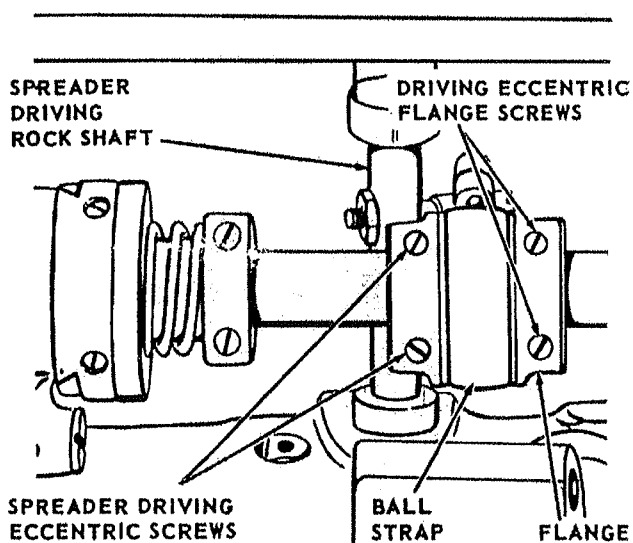

Fig. 35
The sidewise movement of the spreader may be adjusted for sewing under abnormal conditions. Under normal conditions, maximum spreader movement is generally used. To adjust, tilt machine back on its hinges, loosen the two spreader driving eccentric screws, Fig. 35, and the two spreader driving eccentric flange screws. Move eccentric to left to increase movement, or to right to decrease movement. When correctly positioned, tighten the two spreader driving eccentric screws first, hold flange against strap and tighten flange screws. Then refer to preceding information regarding positioning of spreader.
**CAUTION:** When increasing sidewise movement, allow sufficient clearance between spreader driving rock shaft, Fig. 35, and left side of eccentric ball strap. They should not touch when eccentric ball stud is in its highest position.